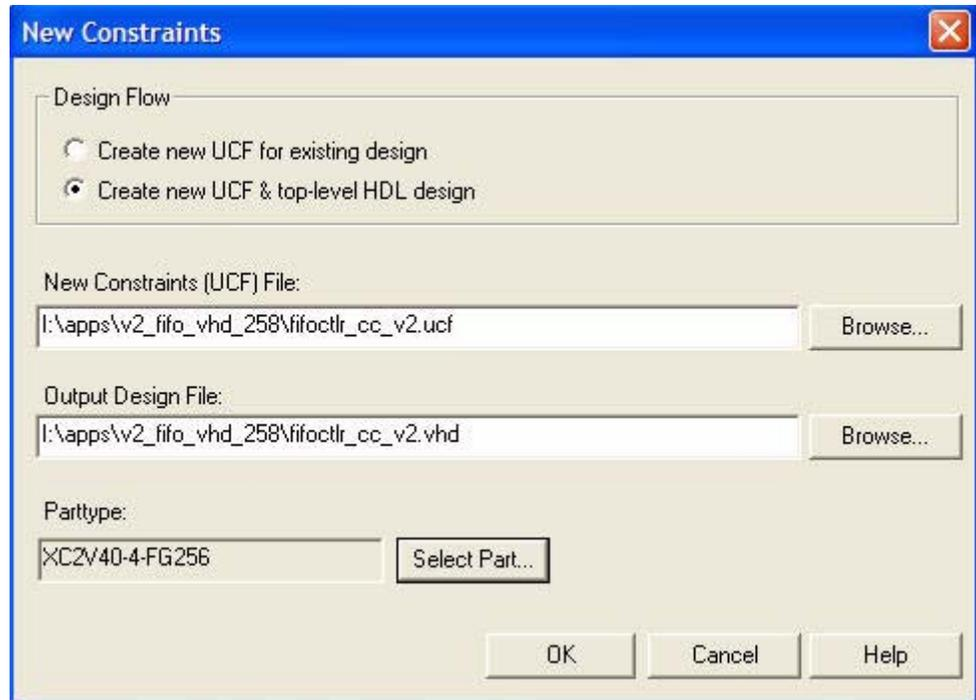

Figure 7: The New Constraints dialog box
- Open PACE (New HDL (File -> New) file option). Figure 7 shows the New Constraints dialog box.